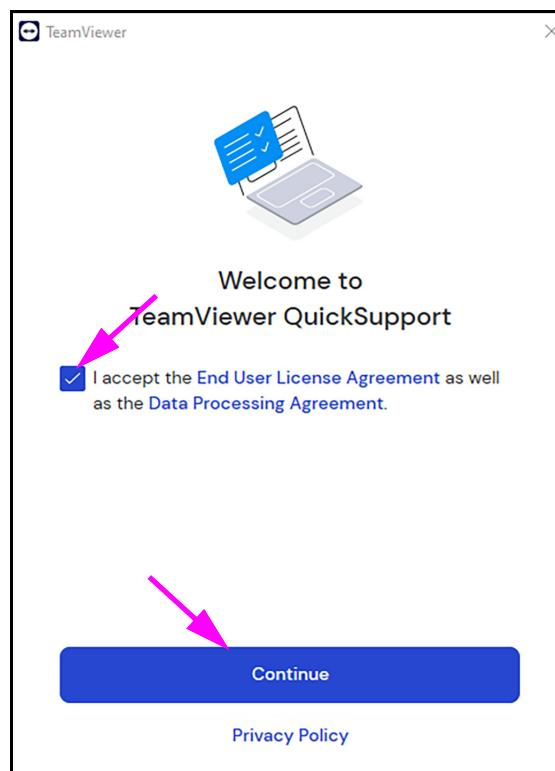

Figure 8-6. TeamViewer Connection Window
4. Select the check box to accept the End User License Agreement and Data Processing Agreement for TeamViewer. See Figure 8-6.